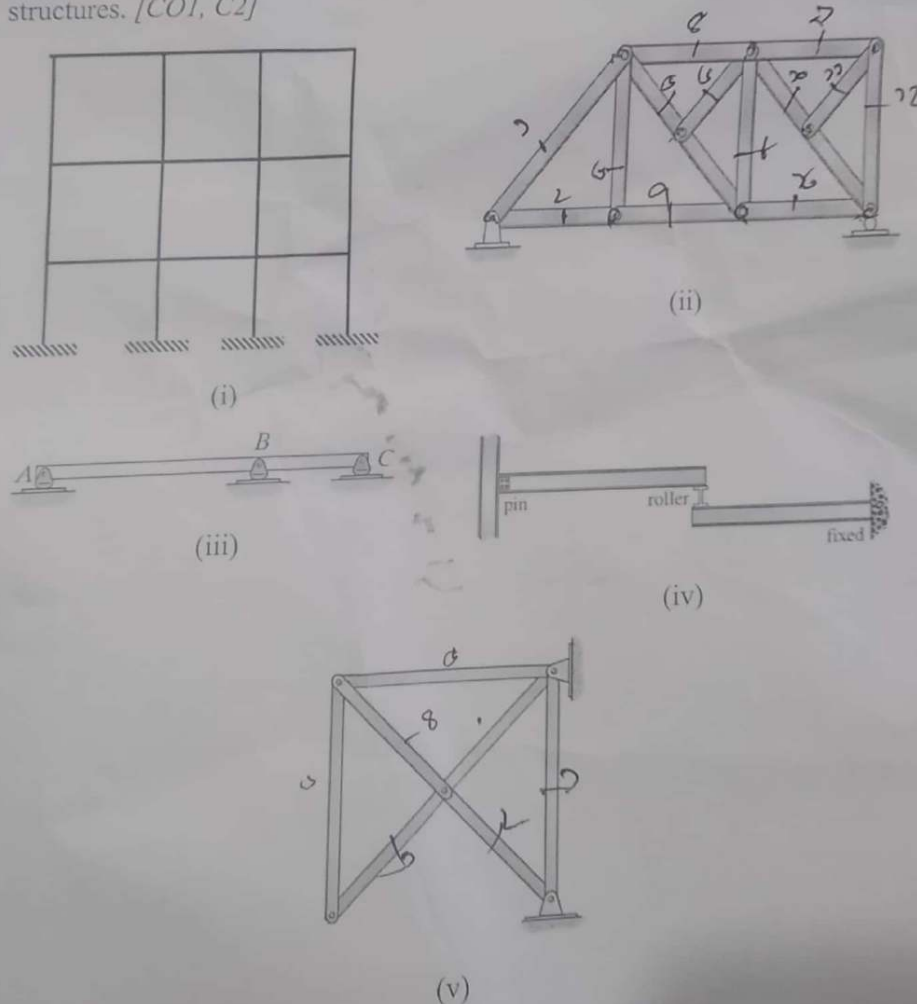

Figure-05
3. Explain external, internal and geometrical stability and determinacy of the [05] structures shown in Figure-05. Also identify the DOI of the indeterminate structures. [CO1, C2]